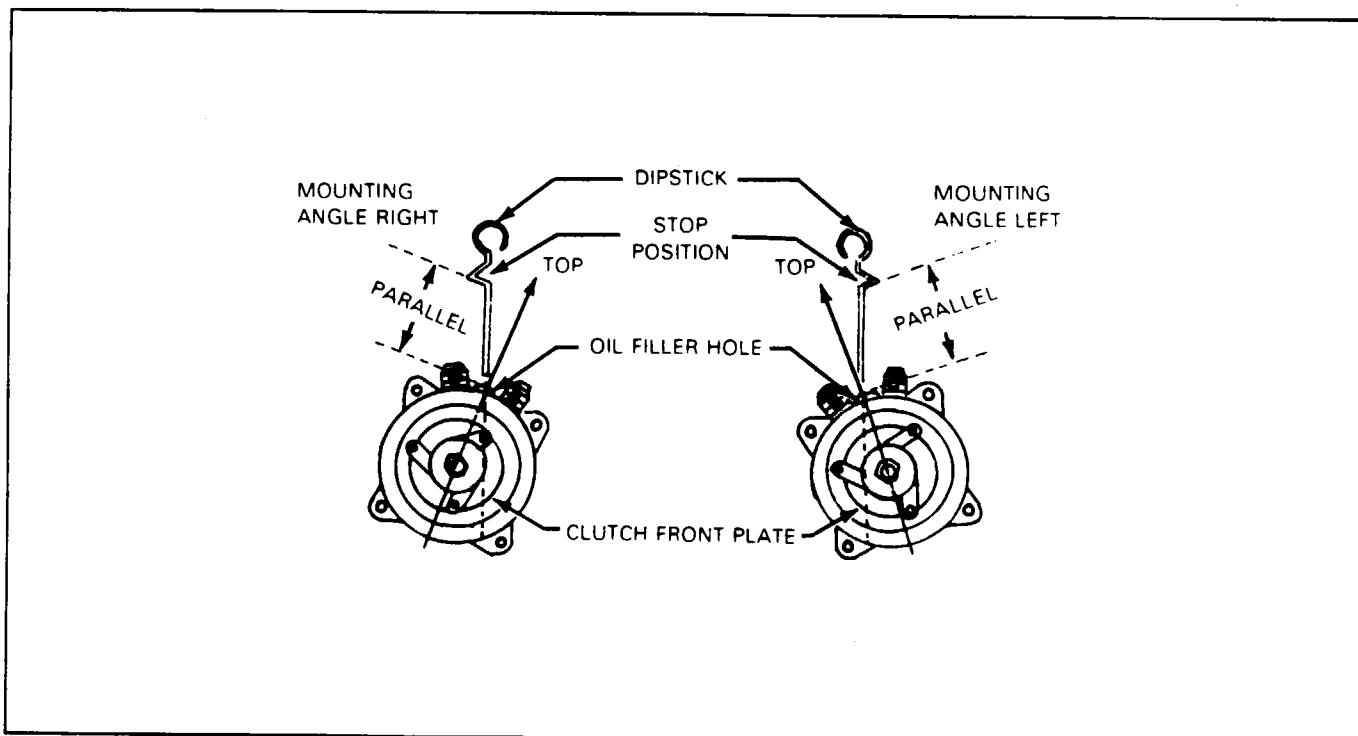

Figure 21-36c. Sankyo Compressor Mounting Angle
6. Insert the dipstick to its stop position. (Refer to Figure 21-36c.) The stop is the angle near the top of the dipstick.